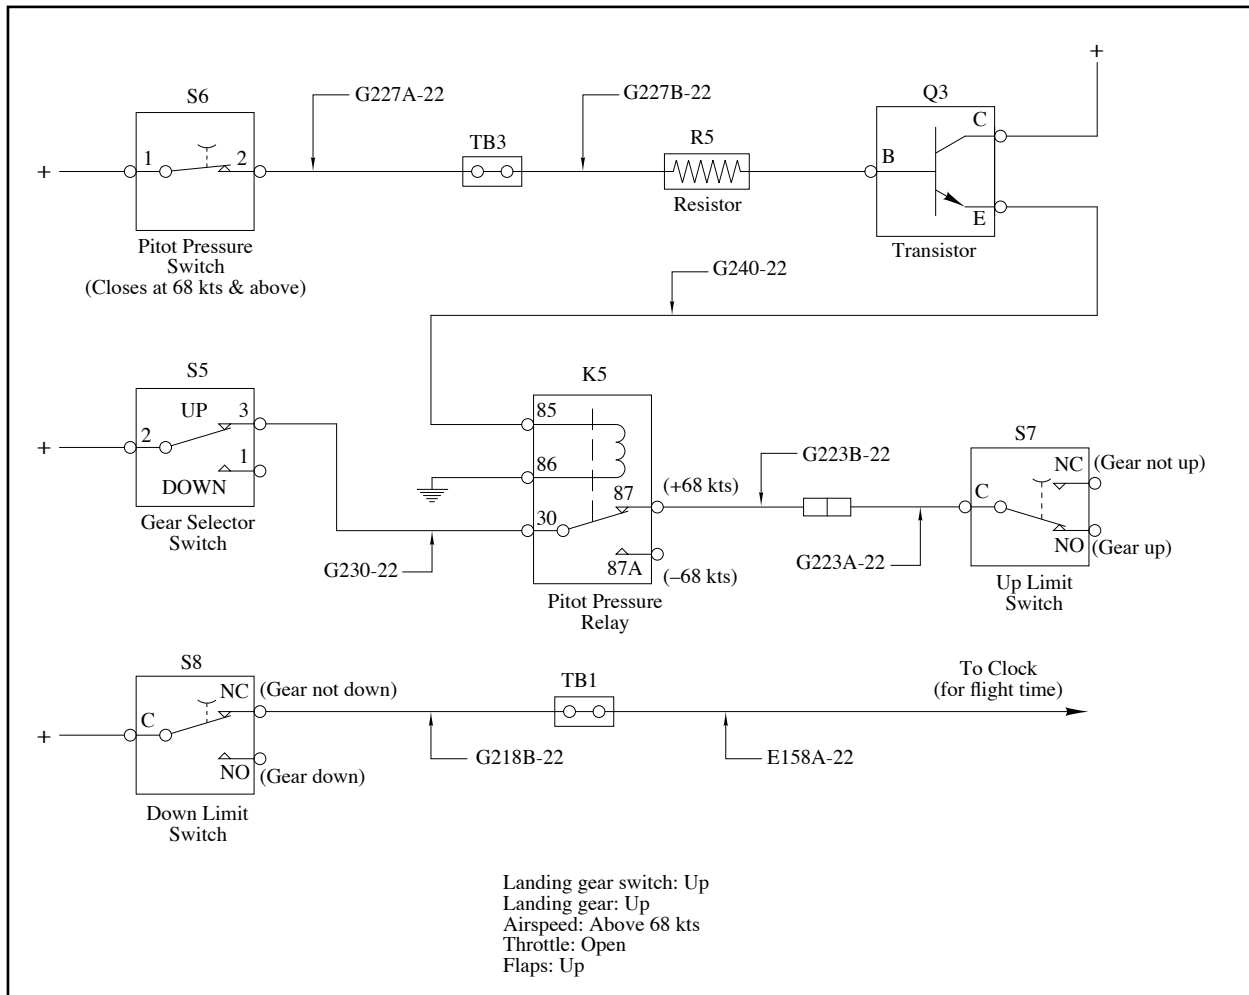
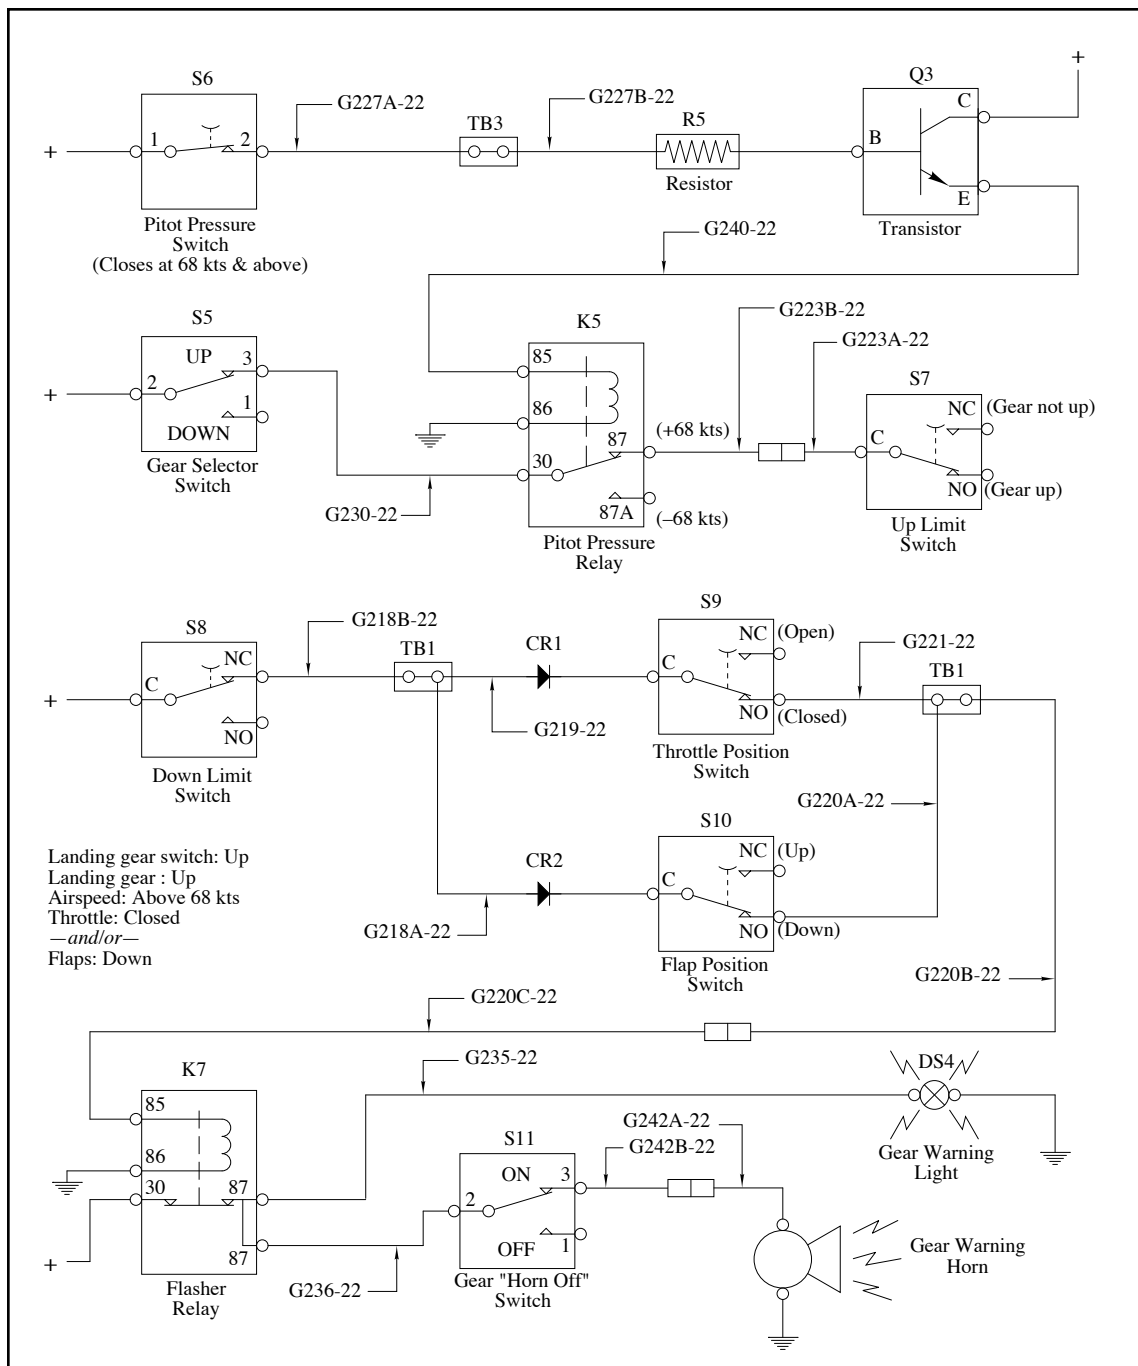

Figure 9-1. "In the Air"—Normal Gear Up Condition
Figure 9-2. "In the Air"—Throttle Closed and/or Flaps Down
The actuation circuit shown at the top of the drawing is separate from the warning circuit shown at the bottom. The actuation circuit is the same as shown in Figure 9-1 for "In the Air—Normal Gear Up Condition. The flight time circuit, shown in Figure 9-1, continues to operate although it is not shown in this circuit drawing. The gear "horn off" switch may be used to turn off the gear warning horn, but the gear warning light continues to operate. The gear "horn off" light is also actuated by the gear "horn off" switch, but this part of the circuit is not shown in this drawing.
The landing gear position has no effect on the warning, which will be actuated any time that the landing gear switch is placed in the "Up" position below 68 kts. This circuit is the same as "On the Ground"—Attempted Gear Retraction. The flight time circuit, shown in Figure 9-1, continues to operate although it is not shown in this circuit drawing.
Since power is supplied to K7(85), power is also supplied to S9(NO) and S10(NO) by G220C-22, G220A-22 and G221-22 (see Figure 9-2). This flow of current is blocked by CR1 and CR2 (see Figure 9-2) otherwise it would flow to TB1 and thence to E158A-22 (see Figure 9-1) causing the clock to record flight time while on the ground.
When landing gear is fully retracted, the circuit is shown in Figure 9-1.
If the flaps are down more than 17°, the flap position switch will be closed. The landing gear will retract as long as the airspeed is above 68 kts; however, the gear warning light and gear warning horn will give a warning immediately since the down limit switch will switch to the normally closed (NC) position (see Figure 9-2). For this reason, takeoff should be made only with the flaps at 15° so that this condition will not occur.